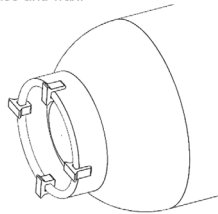

FIGURE 4
3.1 **See Fig 4**--If your tank sits directly on the ground or other flat surface, then you will need to install the Mopeka spacers to the bottom of the foot ring of your tank. This will provide adequate space and improved wireless range for the sensor.